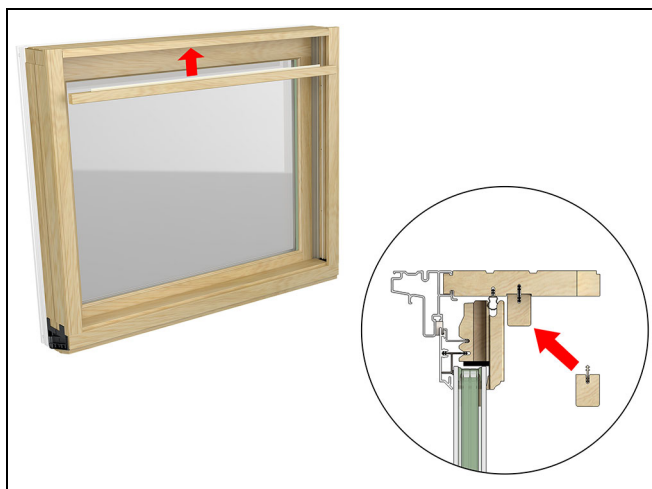

Figure 59
6. Insert the head jamb parting stop into the head jamb seating the barb on the stop into the kerf. See Figure 59.